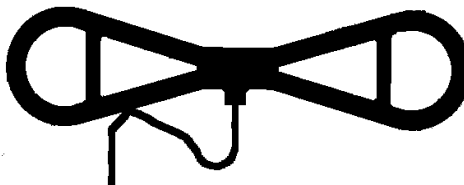

Figure 3, Antenna Tie Wrap Modification
31. Referring to Figure 3, measure back 4" from the connector that attaches to the Figure 8 Loop. Place that point on the cable next to the Figure 8 Loop and place a Cable Tie (5878-0016) on it. This will stop the cable from being pulled out of the Antenna Cable Connector.